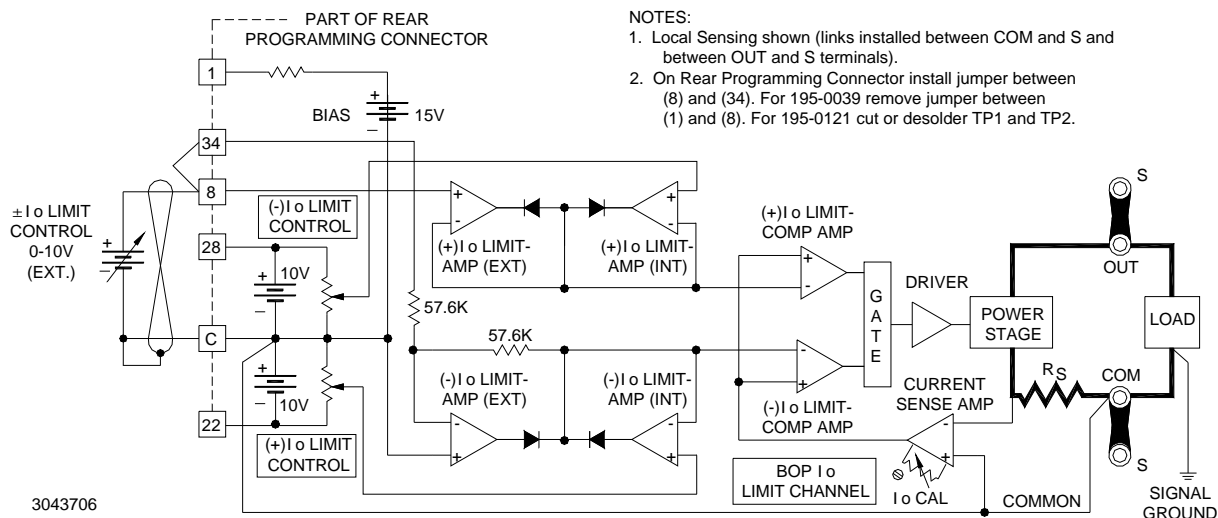

FIGURE 3-13. SYMMETRICAL REMOTE CONTROL OF THE CURRENT LIMITS
For remote control of current limiting, the $\pm I_O$ Limit Amplifiers (EXT) are disconnected from the 15V Bias source by removing jumpers between (1) - (34) and (34) - (8) at the Rear Programming Connector (see Figure 3-13). An external 0 to +10V control signal is applied to terminals 8 and 34, with reference to common. This control signal programs both the negative and positive current limit simultaneously and symmetrically over the BOP output current range.